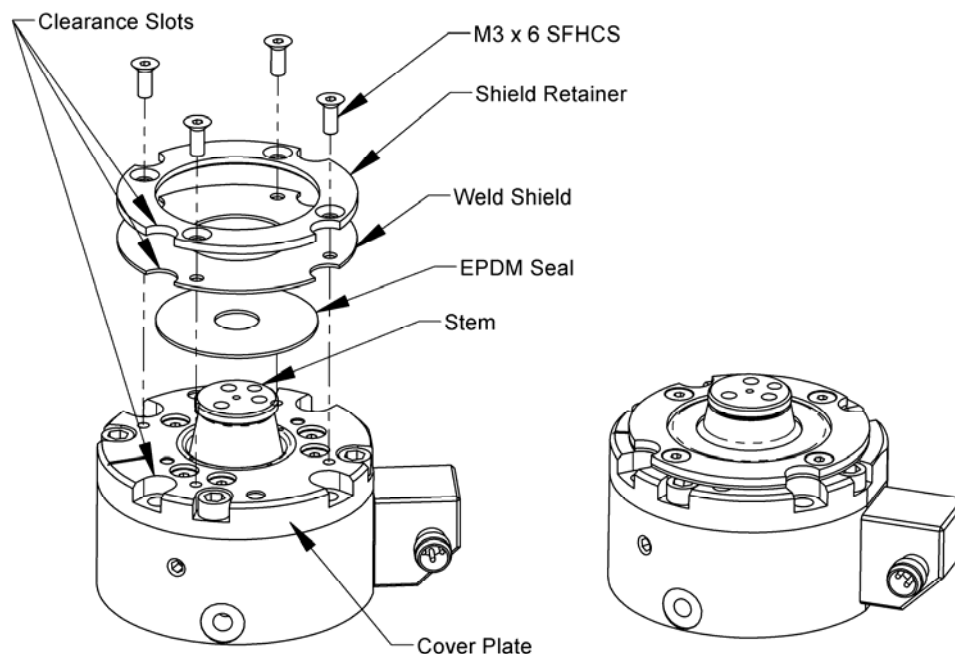

Figure 5.11—Weld Splatter Shield Replacement
1. Remove four (4) M3 x 6 SFHCS and Shield Retainer (see Figure 5.11).